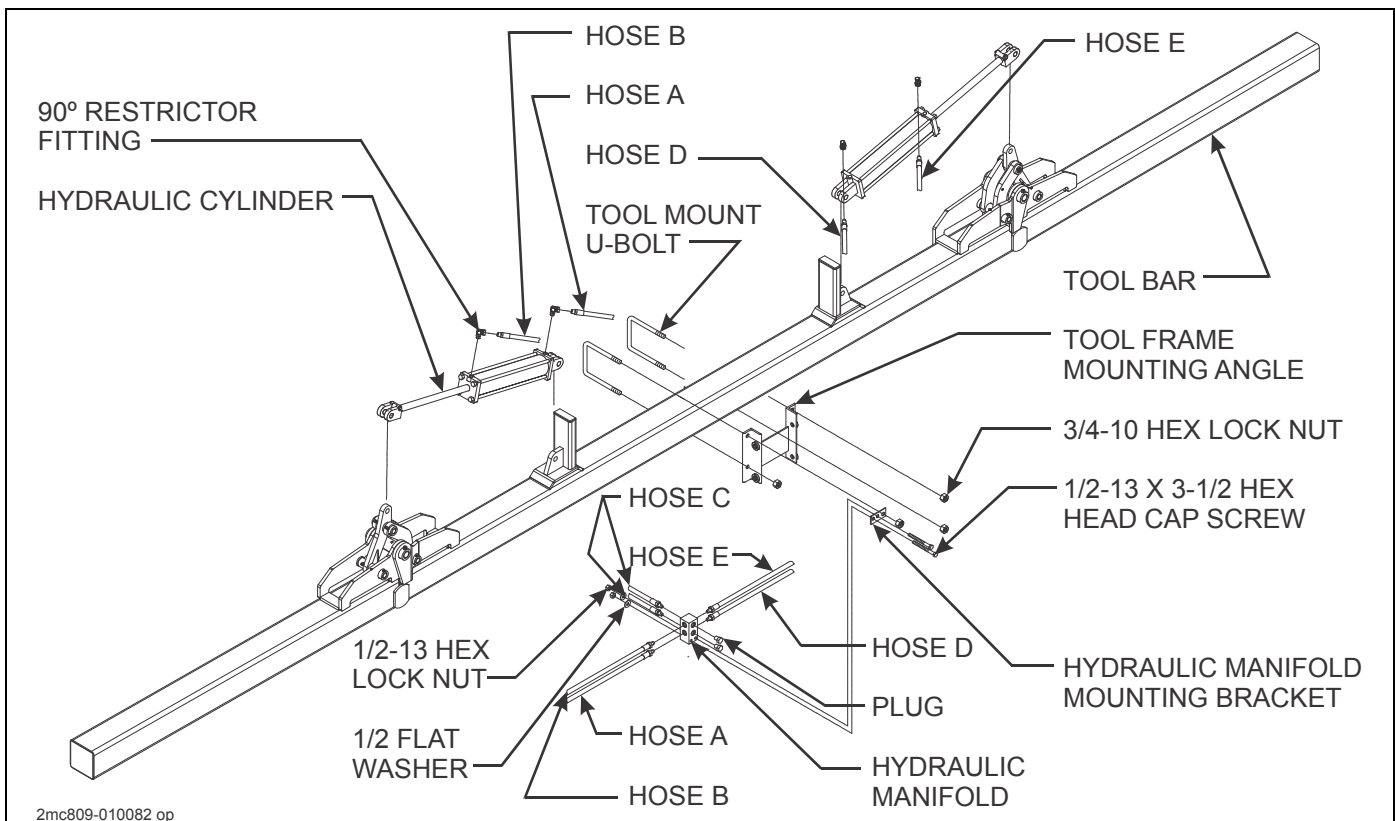

Figure 3-1: Hydraulic Installation
See Figure 3-1 and Table 3-1 for parts names. When assembly is done, tighten all fastening hardware to the torques listed in Table 2-1 and Table 2-2. Tighten u-bolts evenly to show an even amount of thread on both legs of the u-bolt.
- Install the hydraulic manifold mounting bracket on the upper leg of the left-hand U-bolt on the center tool frame (See Figure 3-1.)
- Assemble the hydraulic manifold to the manifold mounting bracket using bolts and nuts provided (See Figure 3-1.)